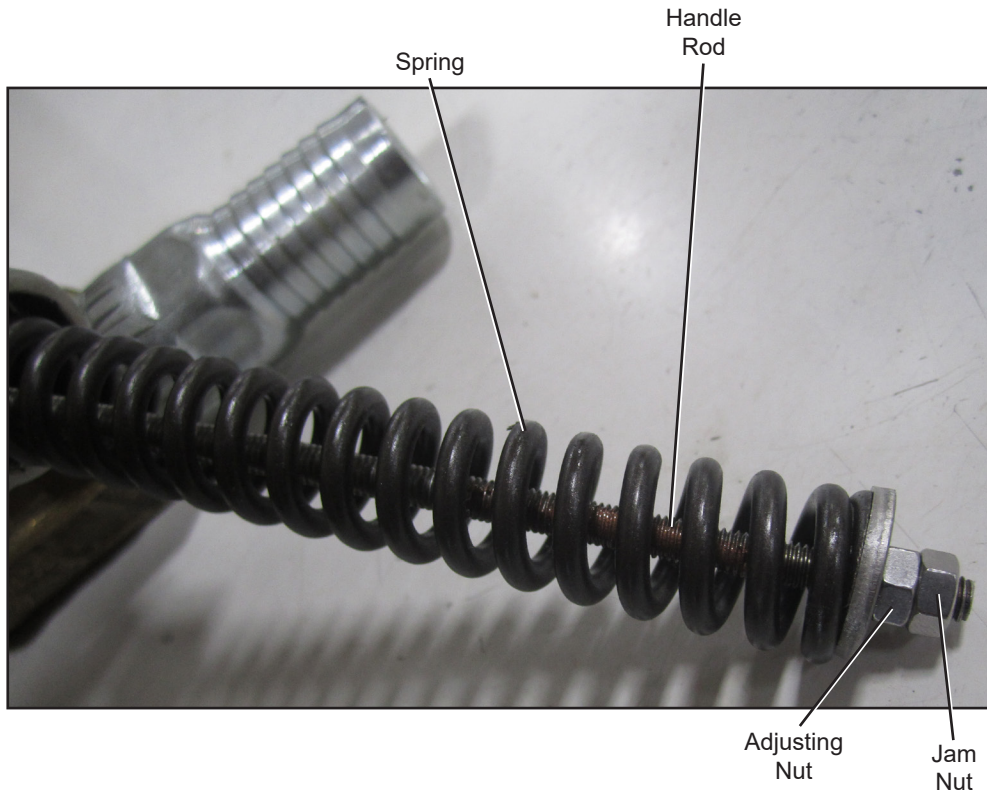

Figure 3: Ball Valve Handle Assembly.
4. Check there are two nuts securing the spring to the handle rod. See Figure 3. If there are two nuts, check that the jam nut is torqued to 4.5 ft.-lbs. (6 N•m), then continue to Step 6. If there is only one nut, continue at Step 5.